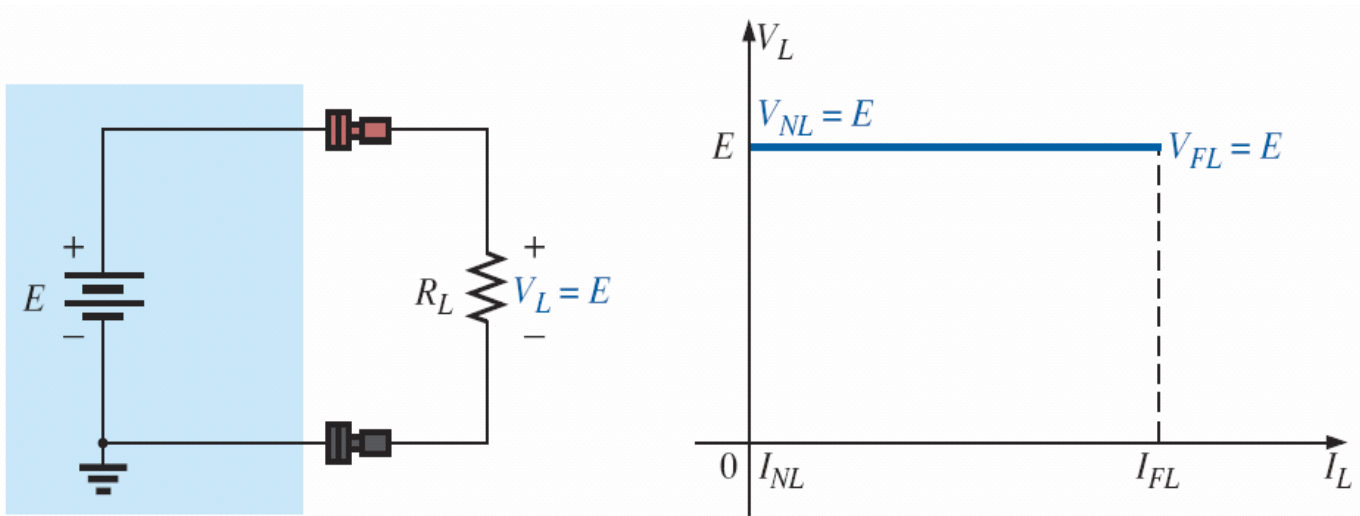

**FIG. 5.68** Defining the properties of importance for a power supply.
- ❖ The basic equation in terms of the quantities in Fig. 5.68(a) is the following: